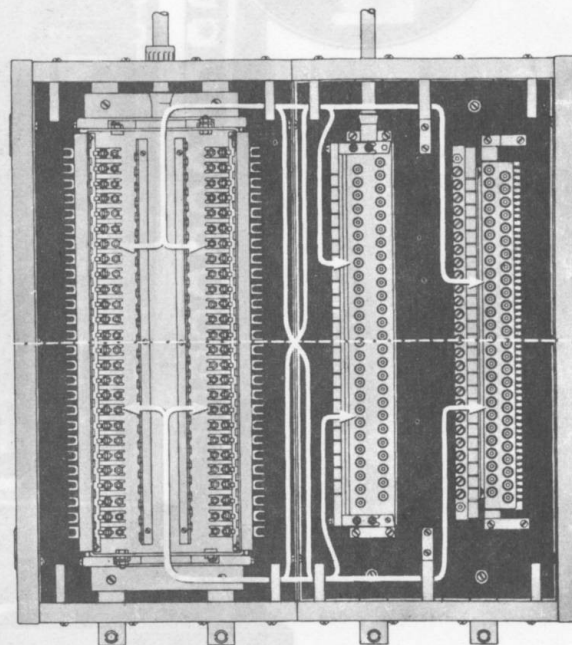

Fig. 10 — Typical Wiring Arrangement in LA-type Terminal
8.01 The LA-type terminal is equipped with an LA-type fuse chamber. Space is provided for mounting binding post chambers or connecting blocks as shown in Fig. 10. Station wiring is terminated normally on the binding post chamber or on the connecting block. Cross connections must be run to the LA-type fuse chamber.
8.04 House cable pairs are not terminated in LA-type fuse chambers. They are terminated in a separate binding post chamber or connecting block shown in Fig. 10.